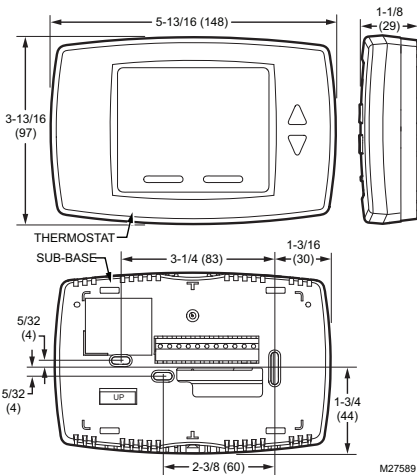

Fig. 1. Dimensions in inches (mm).
**Dimensions:** See Fig. 1 on page 3.